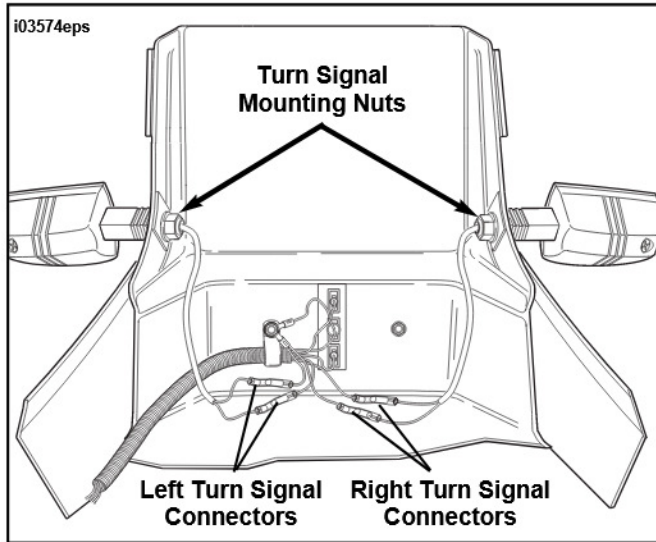

Figure 6. Remove Existing Turn Signal Assemblies
10. See Figure 6. Position tail section upside down (on soft cloth to prevent damage) and perform the following: